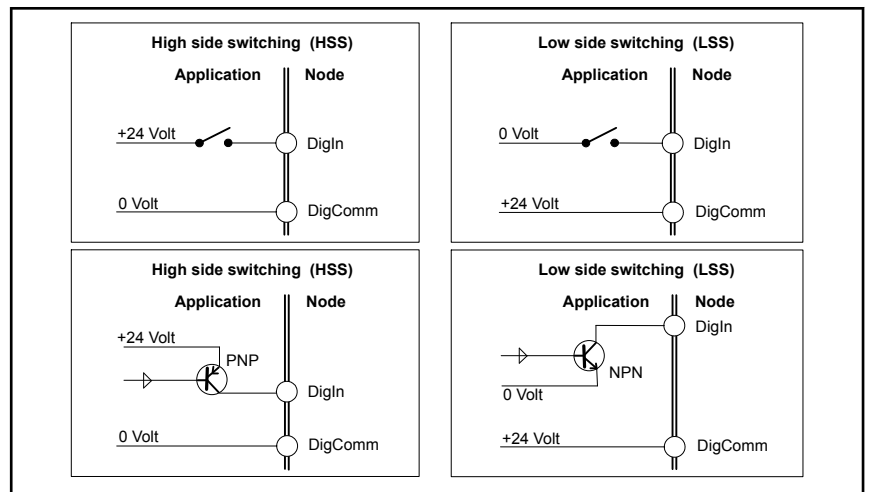
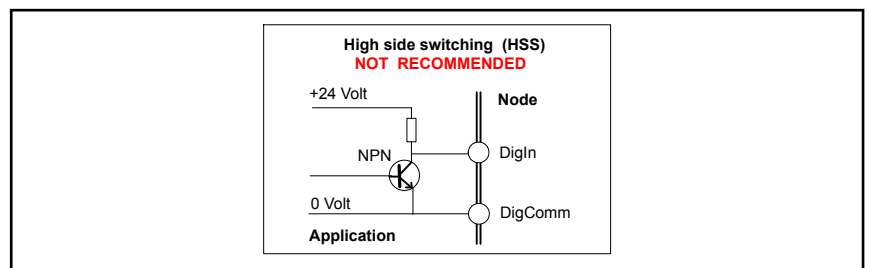

Fig. 8-9: HSS and LSS
Fig. 8-10: HSS with an NPN output transistor
- Keep in mind that these digital inputs do not have a high impedance. If the application uses an open collector output to connect to these digital inputs, use an NPN transistor for low side switching and use a PNP transistor for high side switching, see fig. 8-9 "HSS and LSS" on page 75. It is not recommended to use an NPN transistor output in combination with high side switching, as shown in fig. 8-10 "HSS with an NPN output transistor" on page 75.